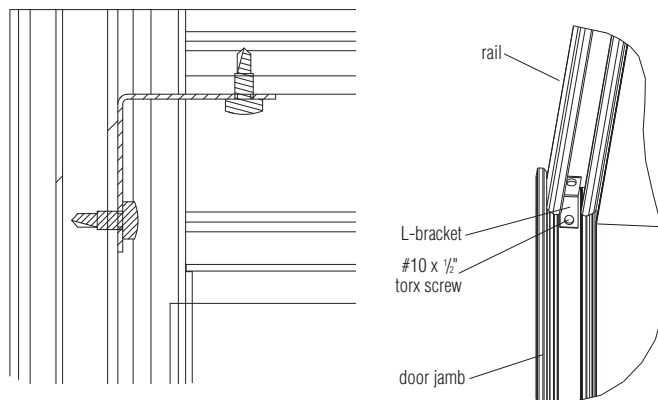

Figure 8
9. Install the sliding door L-bracket. Place the bracket over the corner formed by the door rail and door jamb. Position it so the inside of the L-shaped bracket contacts the top of the door rail and the outside of the door jamb. Secure it with two #10 x 1/2" Torx PH (Figure 8).
10. Secure the rail by installing #10 x 1 1/2" self-drilling screws through the clearance holes in the sliding door rail and into the distance channel and ceiling rail frame members. The door can be adjusted $\pm 1/4$ " (Figure 8).